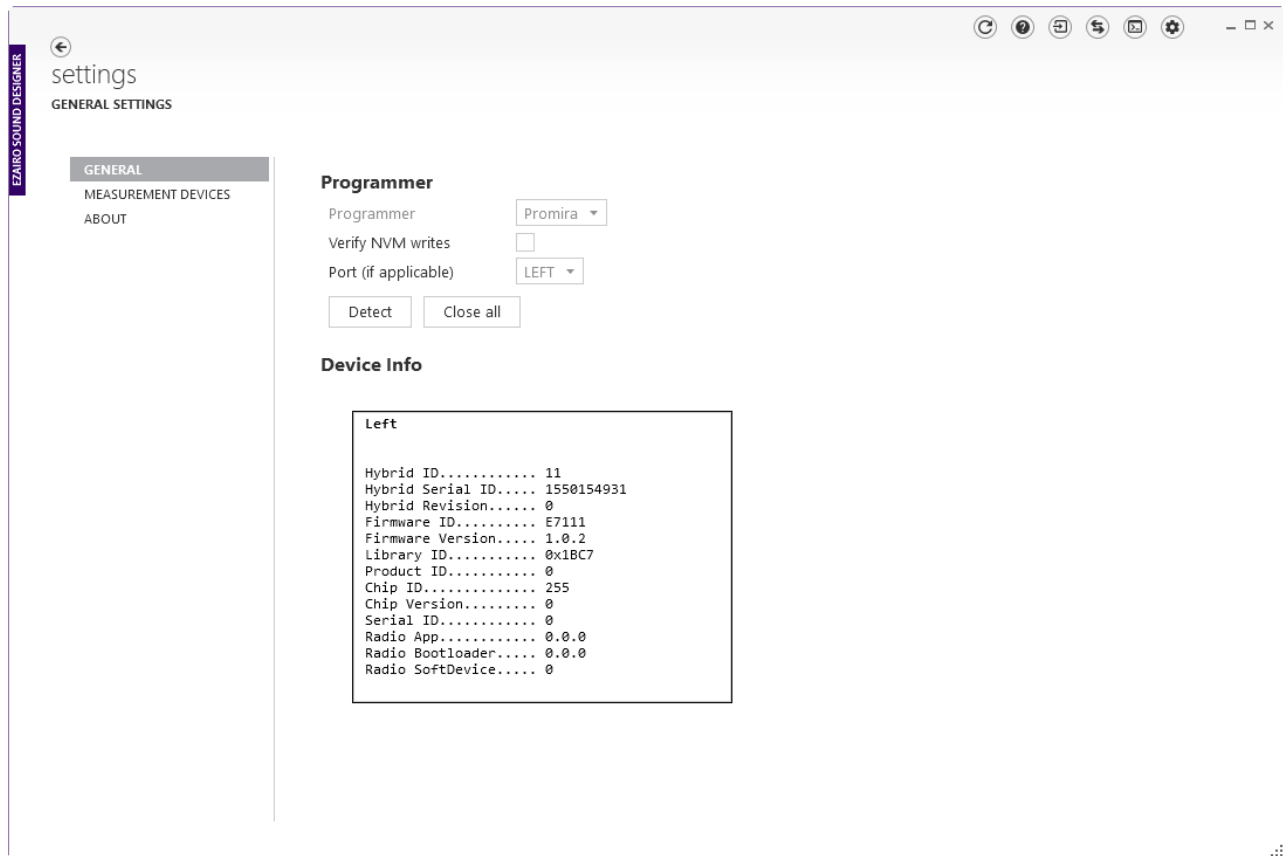

Figure 9. Detecting the Device
6. To connect to the device, go to the **Settings** screen. Select the correct **Programmer**, and **Port** if applicable. Next, click **Detect**. A successful detection populates the device information in the **Device Info** box, as shown in the "Detecting the Device" figure (Figure 9).